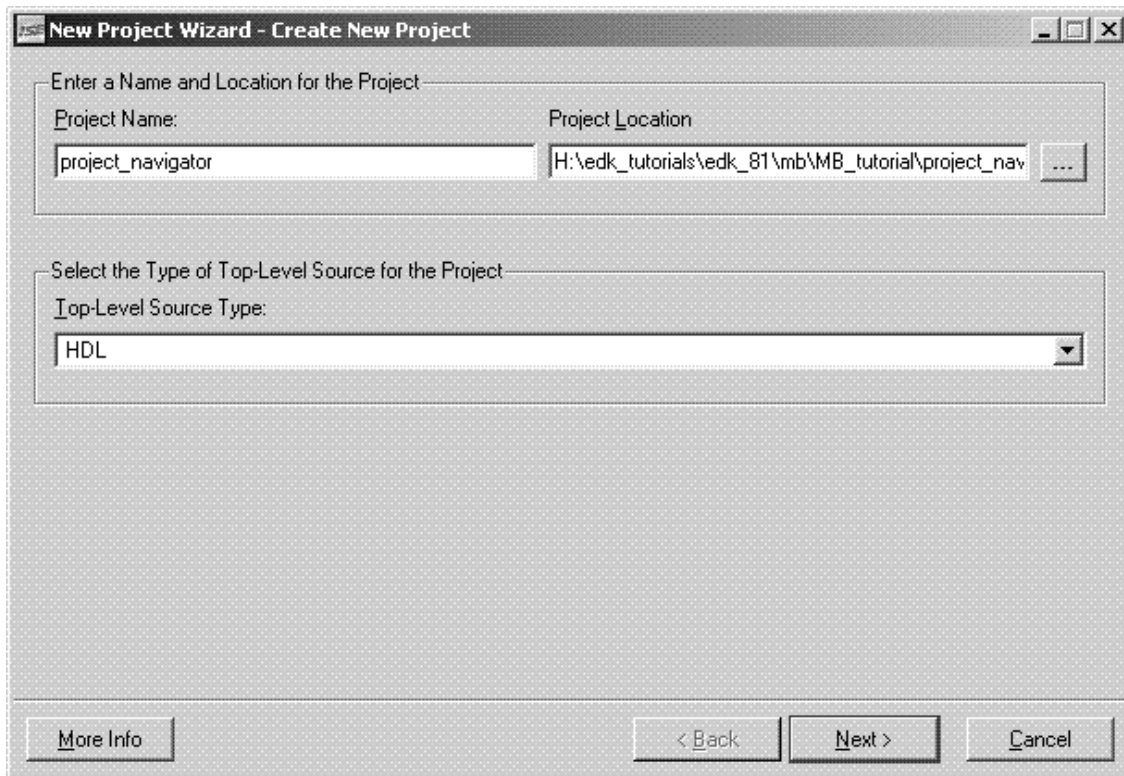

Figure 20: ISE New Project
- In the New Project dialog box shown in Figure 20, browse to the XPS project directory and then enter the Project Name, project_navigator.